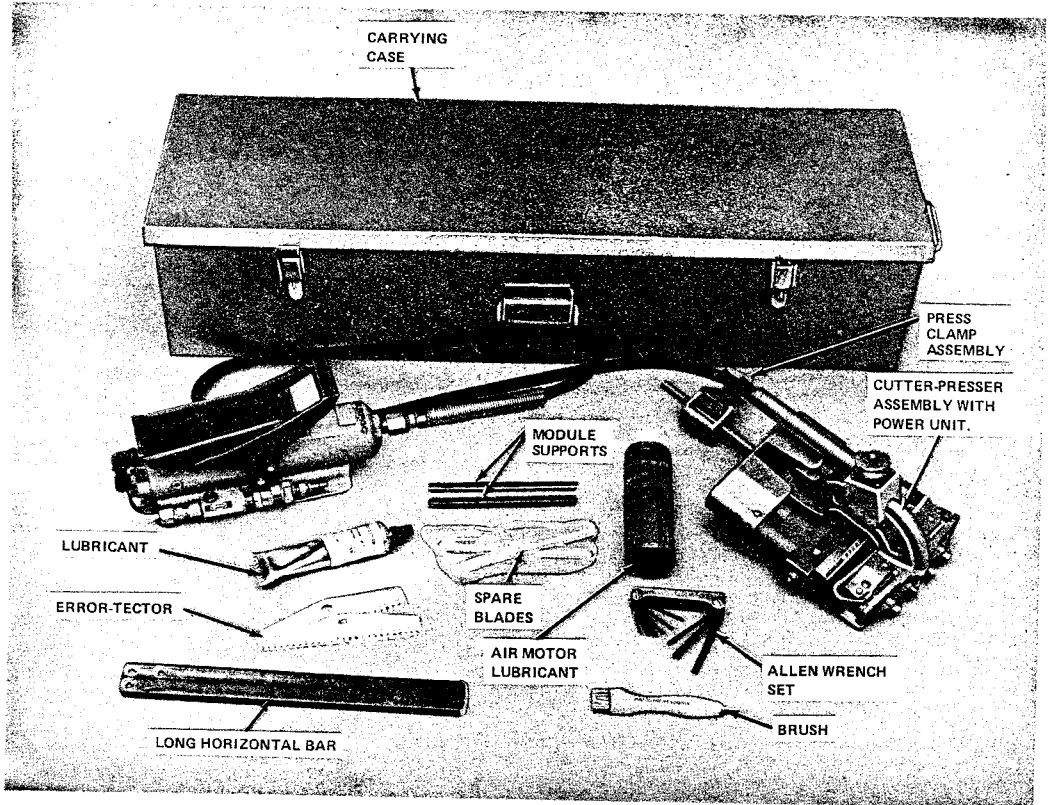

Fig. 28—D Cutter-Presser
4.16 The *D* cutter-presser (Fig. 28) is a pneumatic/hydraulic operated tool for assembling 710 connectors. The hydraulic pump operates off a required air pressure of 80-100 PSI available from a bottled air supply or compressor.